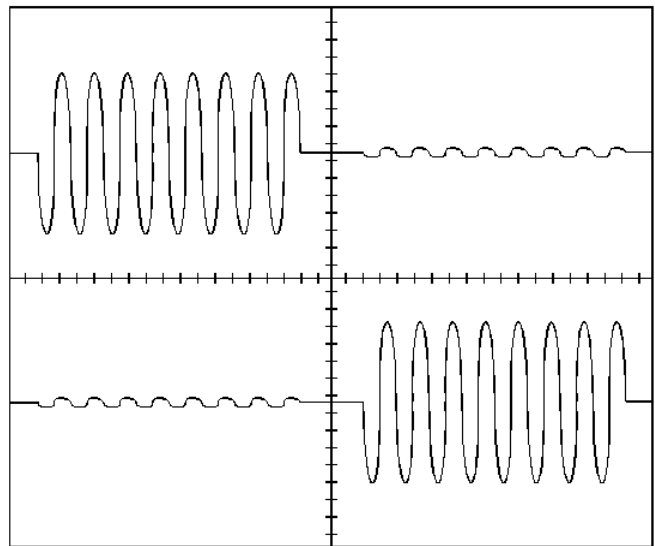

Figure 6. Low crosstalk between channels
- 5 Move laser lens or solar cell laterally and vertically until you have achieved minimum crosstalk between channels (see figure 6).